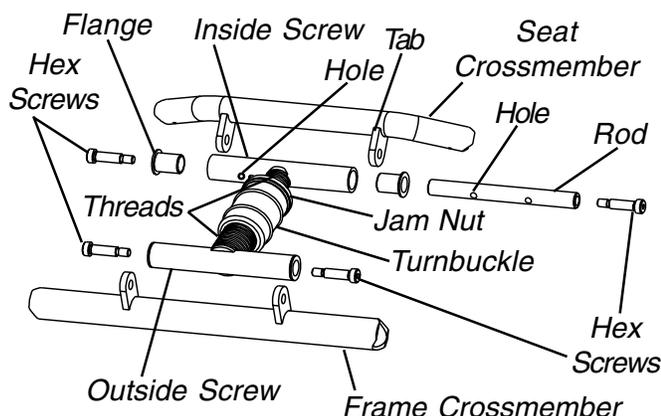

FIGURE 5 - REPLACING TURNBUCKLE ASSEMBLY - A-6/A-6S ONLY
## REPLACING TURNBUCKLE ASSEMBLY - A-6/A6-S ONLY (FIGURE 5)
*NOTE: The turnbuckle assembly consists of the inside screw, turnbuckle, outside screw, flanges and rods. If the turnbuckle assembly becomes disassembled, refer to FIGURE 5.*
3. Remove the two (2) hex screws securing the inside screw to the seat crossmember.
7. Position the NEW turnbuckle assembly with the jam nut towards the seat crossmember as shown in FIGURE 5.
10. Apply a removable thread locker to the threads of one (1) hex screw.